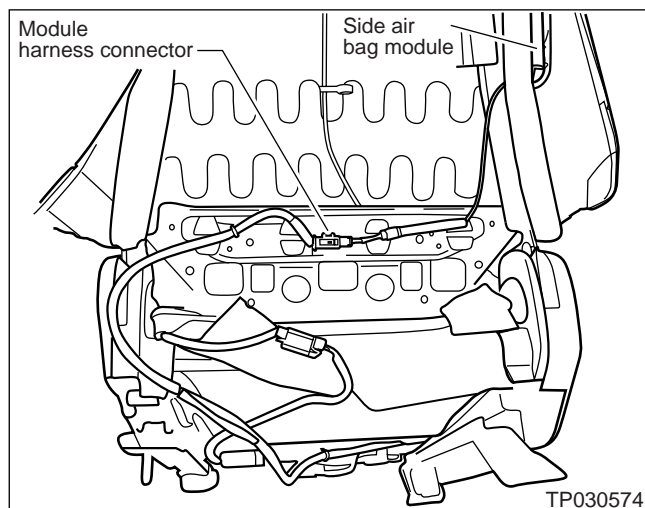

Figure 15
17. Connect the air bag harness connector (see Figure 15).